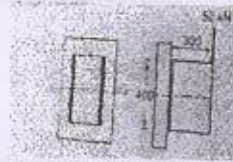

Fig.no.4.1
- b) A bracket is welded to the vertical plate by means of two fillet welds as shown in fig.no.4.1. Determine the size of the weld, if the permissible shear stress is limited to  $70 \text{ N/mm}^2$  [6]